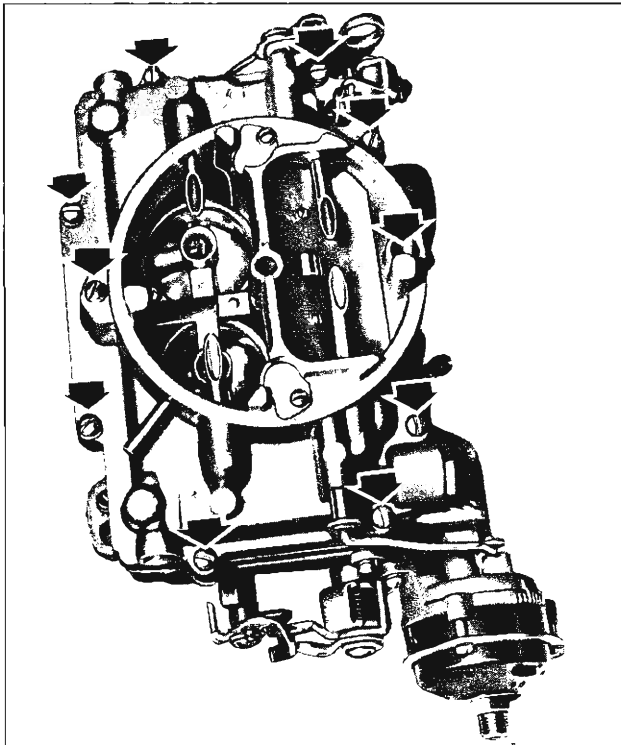

Fig. 71—Bowl Cover Attaching Screws
4. Remove bowl cover attaching screws and carefully remove bowl cover (figs. 71 and 72).